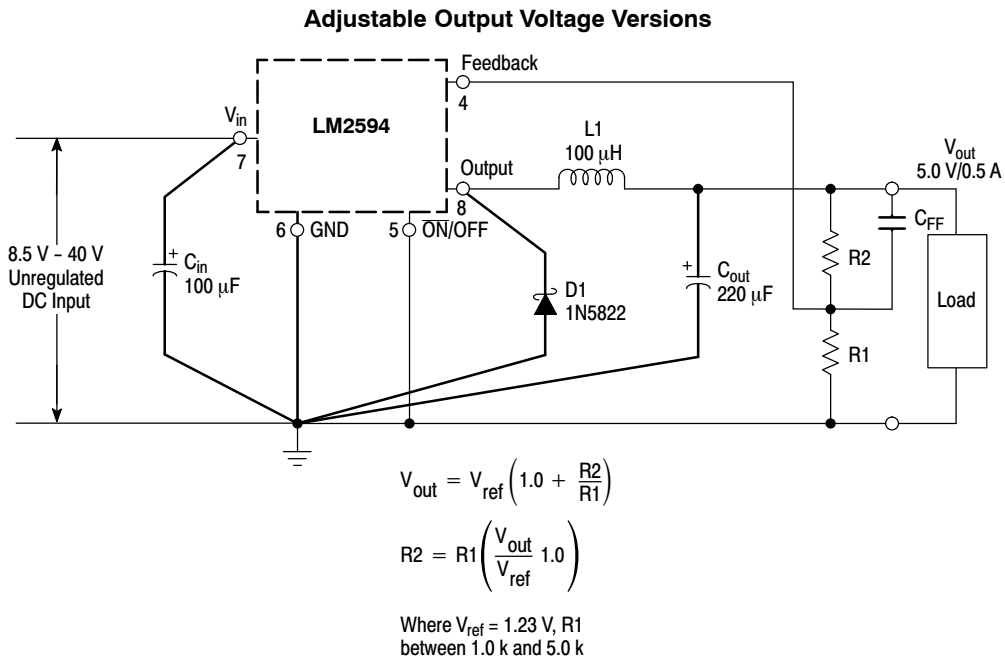

Figure 16. Typical Test Circuit
LM2594 (Note 1, Test Circuit Figure 16)
1. External components such as the catch diode, inductor, input and output capacitors can affect switching regulator system performance. When the LM2594 is used as shown in the Figure 16 test circuit, system performance will be as shown in system parameters section.
TYPICAL PERFORMANCE CHARACTERISTICS (Circuit of Figure 16)
As in any switching regulator, the layout of the printed circuit board is very important. Rapidly switching currents associated with wiring inductance, stray capacitance and parasitic inductance of the printed circuit board traces can generate voltage transients which can generate electromagnetic interferences (EMI) and affect the desired operation. As indicated in the Figure 16, to minimize inductance and ground loops, the length of the leads indicated by heavy lines should be kept as short as possible.